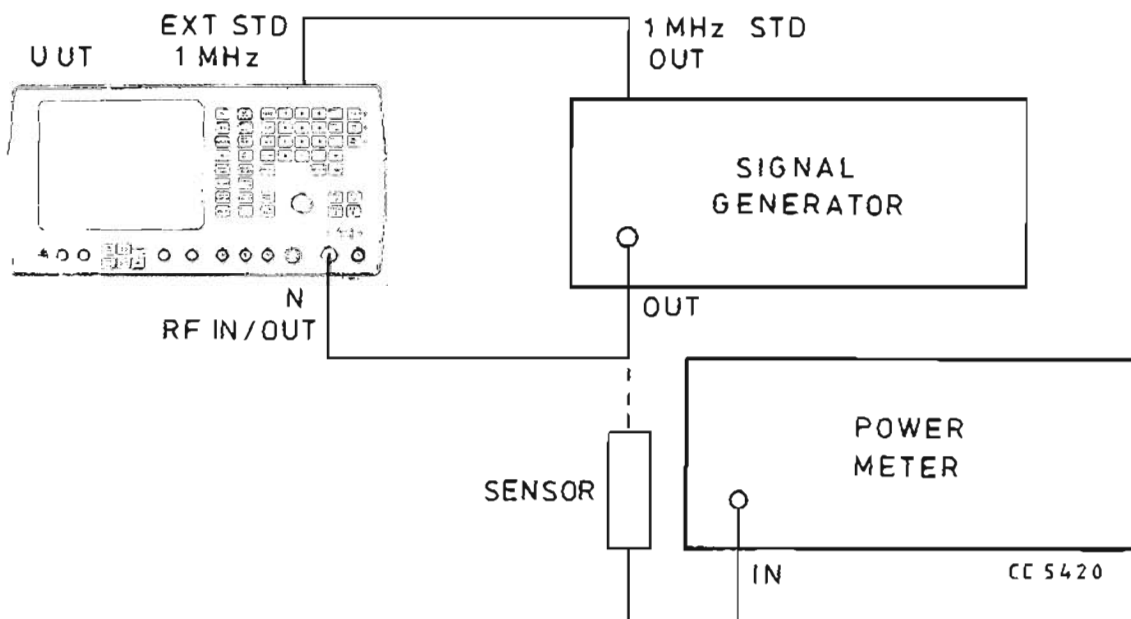

Fig. 10 Test equipment connections for r.f. frequency meter input sensitivity performance checks
- (3) Connect the power meter to the signal generator output (see Fig. 10) and adjust the r.f. level to give 5 mW indication on the power meter.